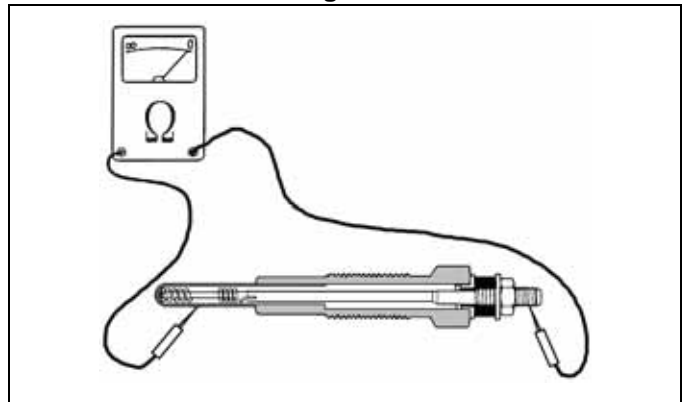

Fig. 5-7
2. Using an ohmmeter, touch one test probe to the glow plug electrode. Touch the other test probe to the glow plug body (see page 5-3, Fig. 5-7).